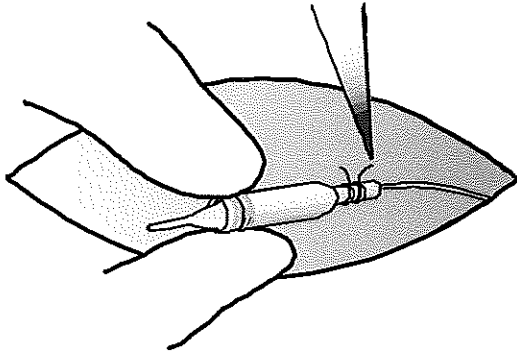

Figure 33: Cut distal suture over lead end of connector boot.
3. Cut the distal suture over the lead end of the connector boot (Figure 33).